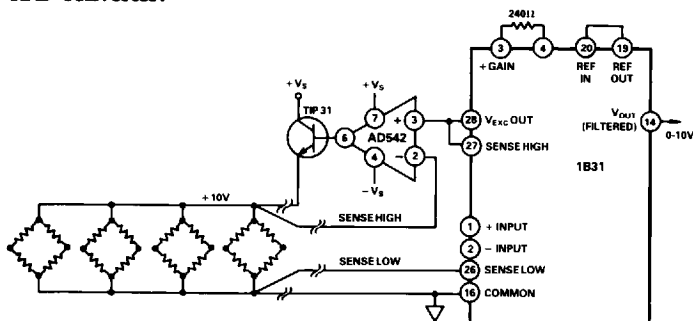

Figure 17. Multiple Load-Cell Application
**Multiple Load-Cells:** For transducer configurations where the maximum load current of 100mA of the 1B31 is not sufficient, a buffer and a power transistor such as a TIP31 can be used as shown in Figure 17. This design can supply 300mA at +10V excitation over the full industrial temperature range ( $-25^{\circ}\text{C}$  to  $+85^{\circ}\text{C}$ ). In a multiple 1B31 system an added advantage is that ratiometric operation can be preserved by using one excitation source which also serves as the reference voltage for the system A/D converter.